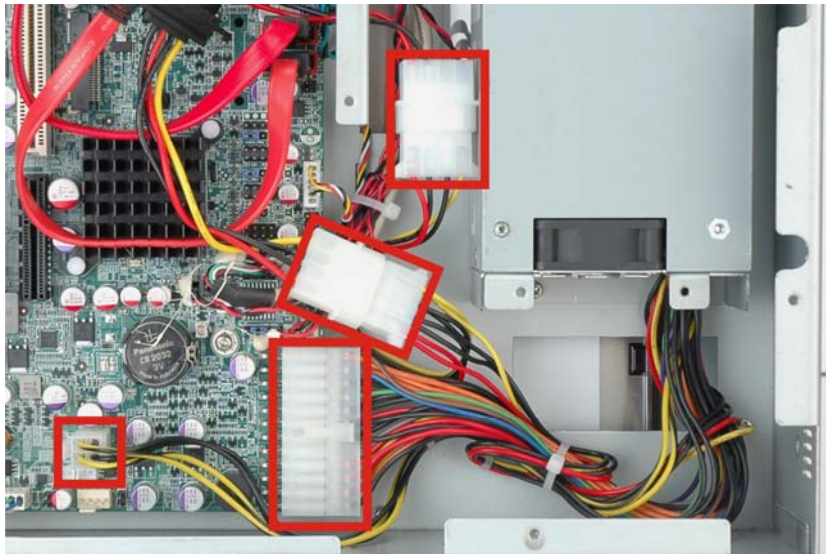

Figure 4-7: PSU Power Cables
- Step 3:** Disconnect all PSU connections including those to the motherboard (**Figure 4-7**) and any disk drives.